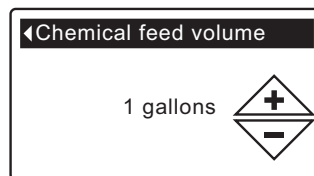

FIG. 84
7. Press the SELECT (O) button to display the Chemical feed volume or Chemical feed timer menu (See Figures 84 & 85).